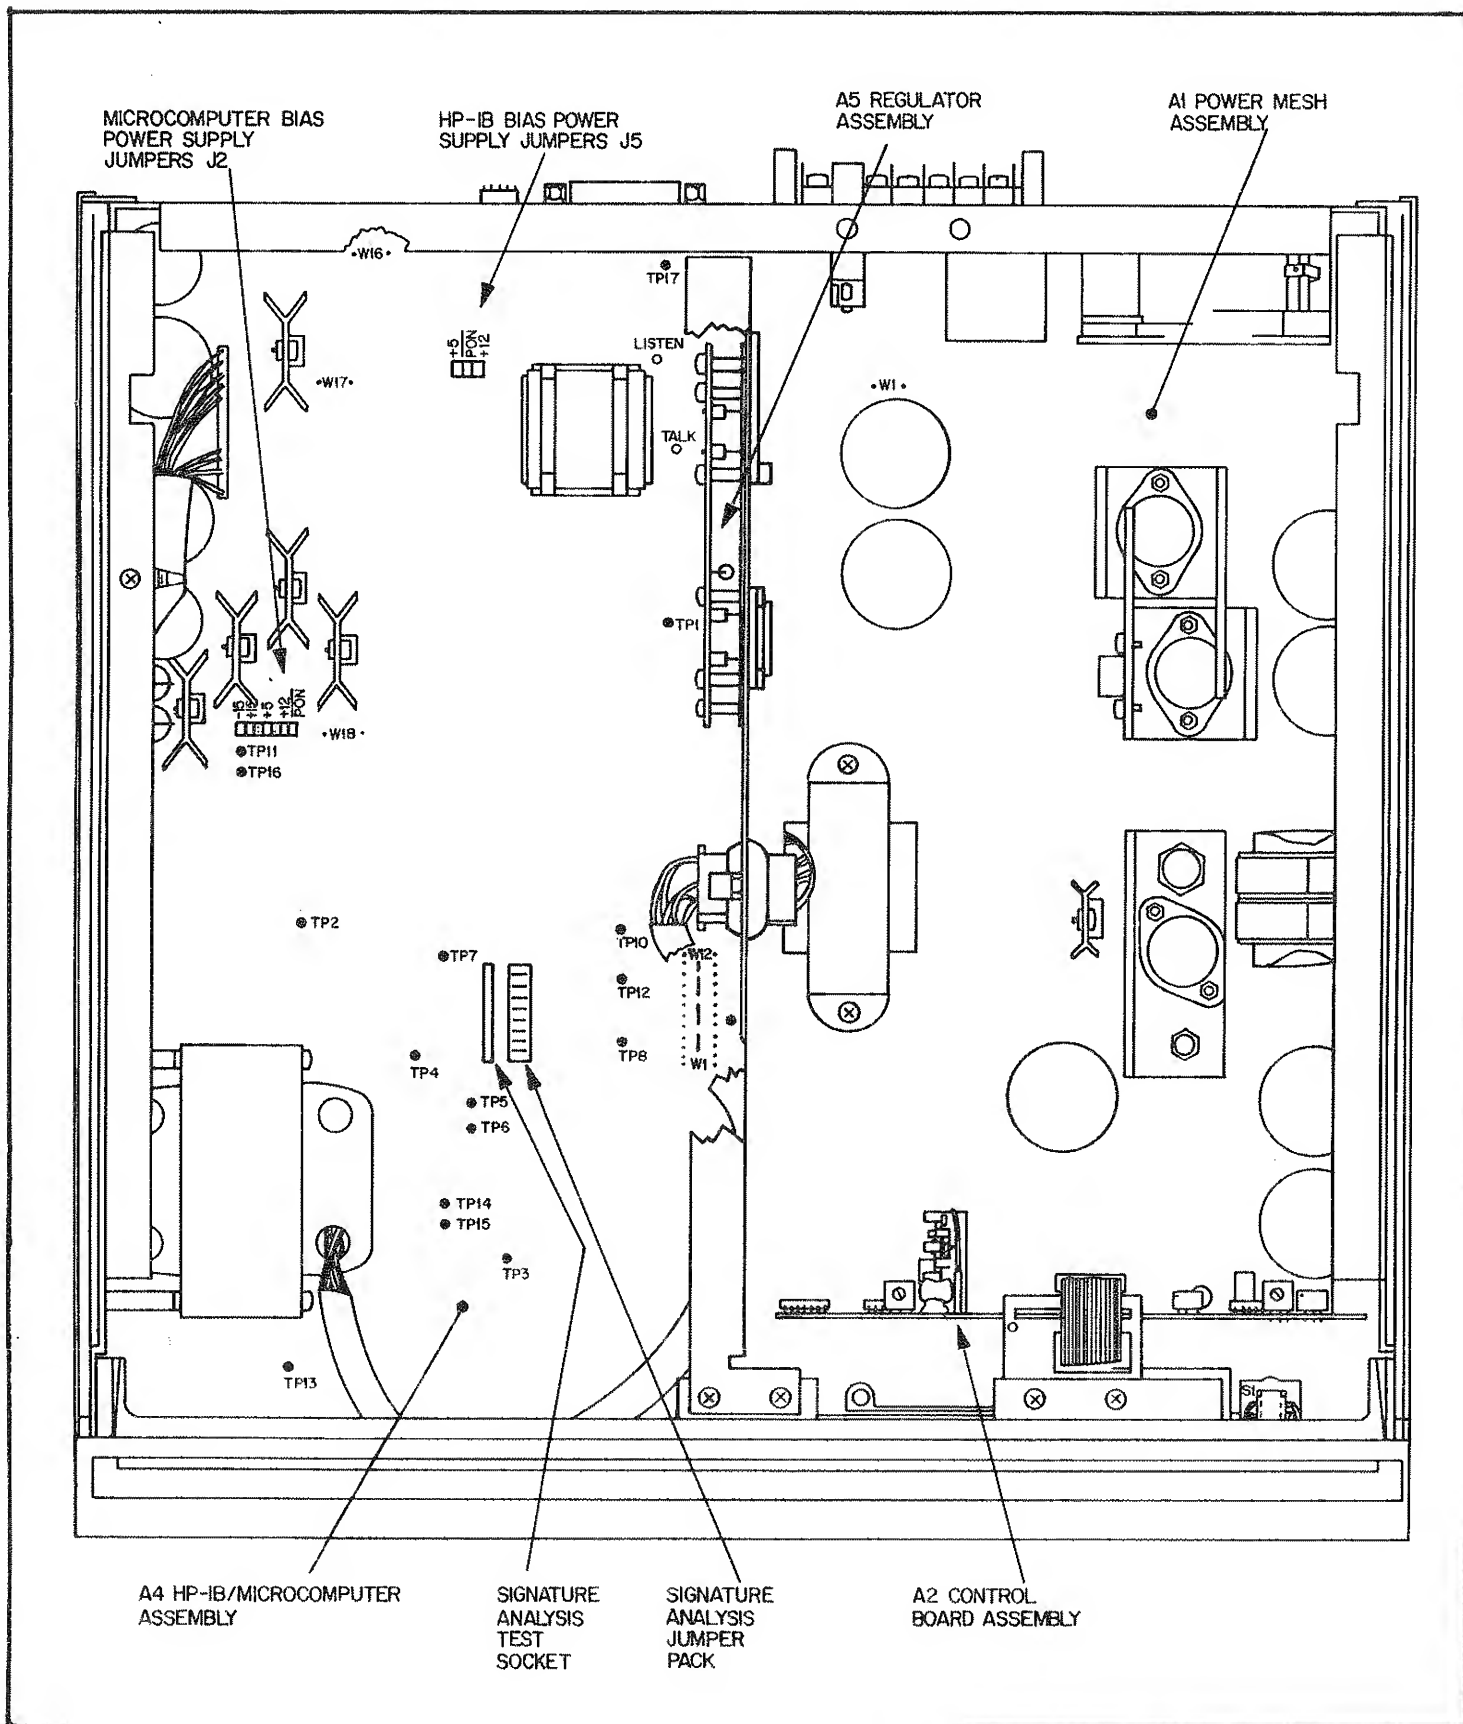

Figure 7-1. Top View, Top Cover Removed
- a. Component location illustrations (Figures 7-1 through 7-5), showing the physical location and reference designators of almost all electrical parts. (Components located on the A5 Regulator Assembly are easily identified by lettering on the printed-circuit board.)